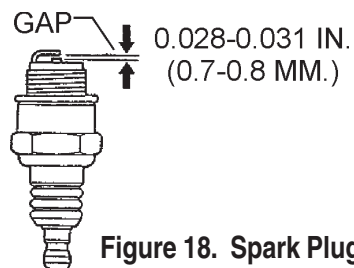

Figure 18. Spark Plug Gap
1. Remove and clean the spark plug (Figure 18).